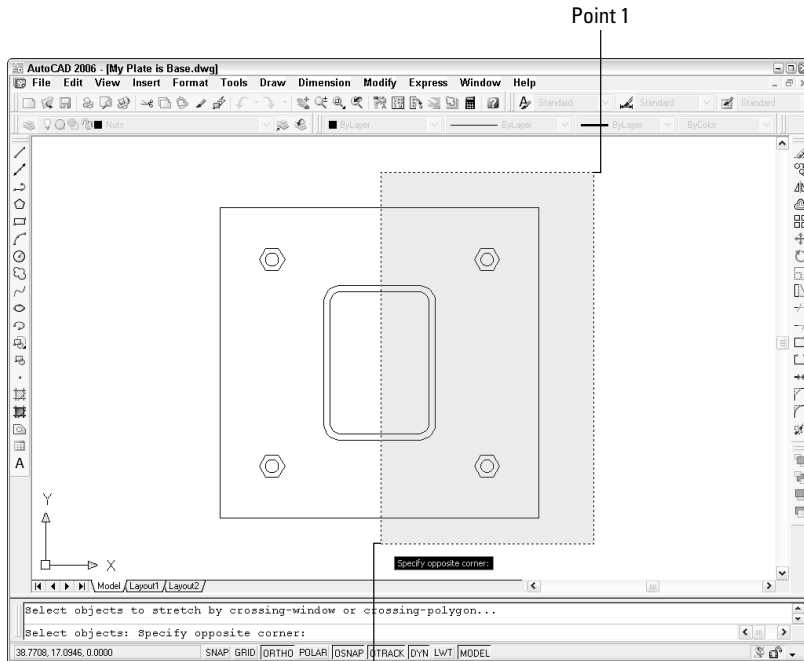

Figure 3-10:
2. Click a point above and to the right of the upper-right corner of the plate (Point 1 in Figure 3-10).
4. Click a point below the plate, roughly through the center of the column (Point 2 in Figure 3-10).
The crossing box needs to cut through the plate and column in order for the Stretch command to work (refer to Figure 3-10).